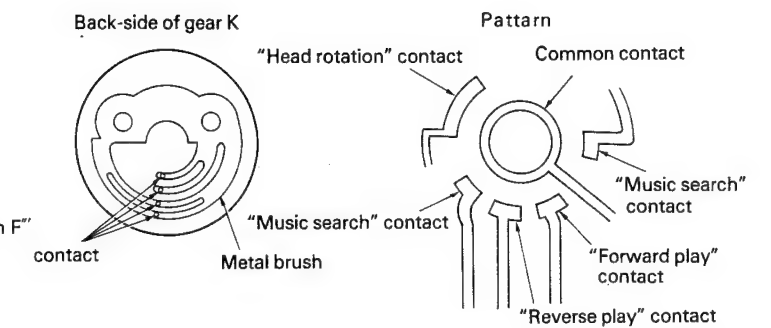

Fig. 16-6
- Pin "B" engages with the arm "E" oval opening and rotates arm "E". The arm "E" sector gear is engaged with pin "C" and this turns the head. The head rotation pattern (Fig. 16-6) performs this operation inside a certain angle.
- After the head base goes beyond the MS pattern (Fig. 16-6) position, the arm "F", "F" part pushes the pinch roller unit pinch spring and presses the pinch roller down onto the capstan. (Fig. 17)
- Simultaneously, the arm "F", "F" unit pushes the arm "H", "H" part. The "H" part lock releases when pushed, and the play idler gear comes into contact with the reel unit. Play operation begins because of this. (Fig. 16-6, Fig. 17)